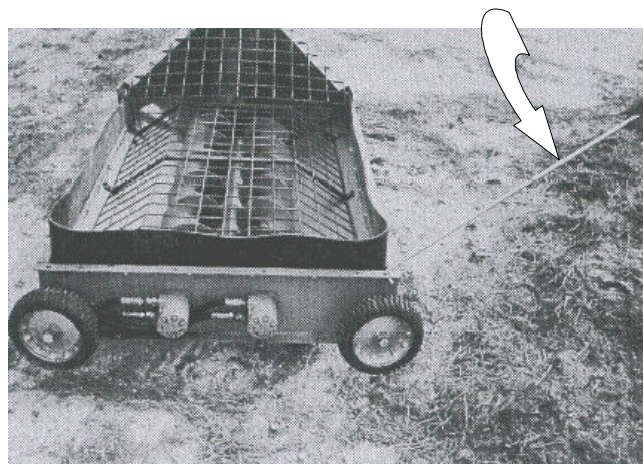

Fig. 13 Swinging Out
10. Use the handle on the hopper to move the swing auger into position under the truck. See **Fig. 13**.